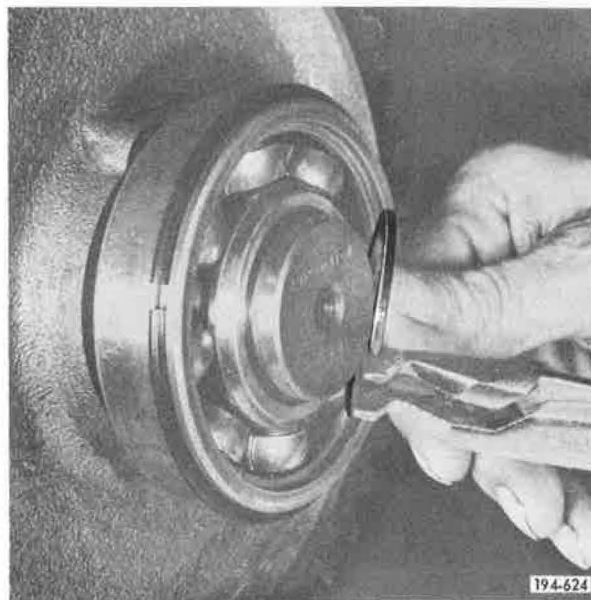

Figure 5-311. Removing Snap Ring
1. Remove front countershaft front bearing retaining snap ring, using snap ring pliers J-25445, or equivalent. See Figure 5-311.